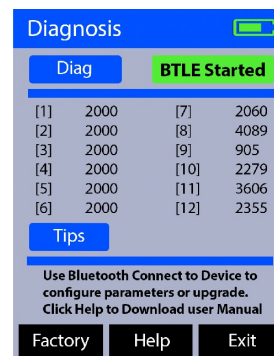

Figure 19.
Press **Diag** () to launch the **Diagnosis** screen where raw measurement data are displayed (Figure 19). The information has no use for normal operation, but instead is used for device troubleshooting. Provide an image of both the **Information** screen and the **Diagnosis** screen when you contact Pyxis (service@pyxis-lab.com) for troubleshooting your device or call +1 (866) 203-8397.
4. Allow 5–10 seconds for the message in the top-right corner of the display change from **Starting BTLE...** to **BTLE Started** (Figure 19).